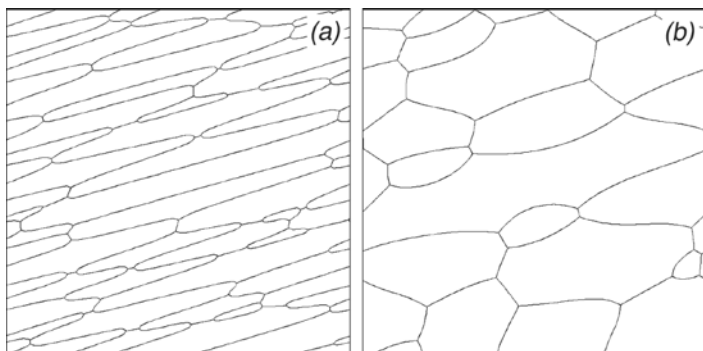

Fig. B7. Example of a grain growth experiment. **(a)** Originally foliated aggregate at $t=0$, and **(b)** at $t=40000$ time steps
- a without boundary tracking (Fig. B7)
Examples: In this example (Fig. B7) we will perform a simple grain growth experiment by taking an input file with a microstructure far from equilibrium in terms of grain shapes and evolve the grain boundaries by defining a boundary energy term, which provides the driving force for grain boundary migration. The example can also be seen in Chap. 3.5 (Fig. 3.5.4). Figure B8 is the same experiment, but the past positions of grain boundaries are displayed. This way one can see which parts of the grains have been swept by grain boundaries at least once (Jessell et al., 2003).